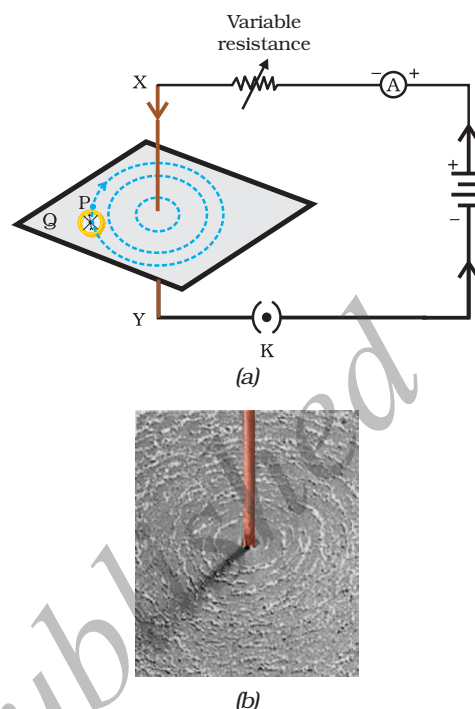

Figure 13.6
- Connect the copper wire vertically between the points X and Y, as shown in Fig. 13.6 (a), in series with the battery, a plug and key.
- Gently tap the cardboard a few times. Observe the pattern of the iron filings. You would find that the iron filings align themselves showing a pattern of concentric circles around the copper wire (Fig. 13.6).
What happens to the deflection of the needle if the compass is moved away from the copper wire but the current through the wire remains the same? To see this, now place the compass at a farther point from the conducting wire (say at point Q). What change do you observe? We see that the deflection in the needle decreases. Thus the magnetic field produced by a given current in the conductor decreases as the distance from it increases. From Fig. 13.6, it can be noticed that the concentric circles representing the magnetic field around a current-carrying straight wire become larger and larger as we move away from it.